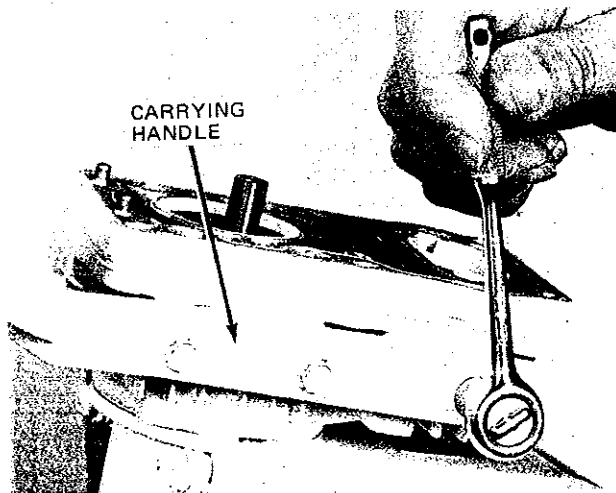

Figure 10
- (1) Remove column gasket.
- (2) Remove six screws securing the exhaust plate and top plate to engine.
- (3) Remove water tube "O" ring from exhaust plate.
J. Remove steering handle or carrying handle, if so equipped (Figure 10).